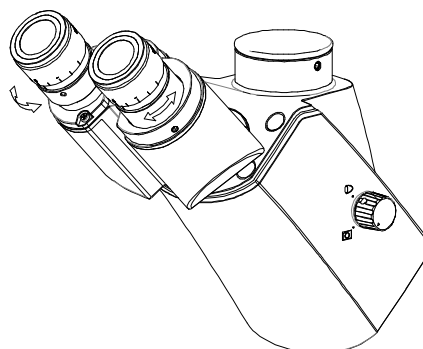

Figure-11 Adjustment Of Diopter
Eyepiece can be tighten by using thumb screw ① (Figure-11), if want to change eyepiece, must unscrew it ① at first.